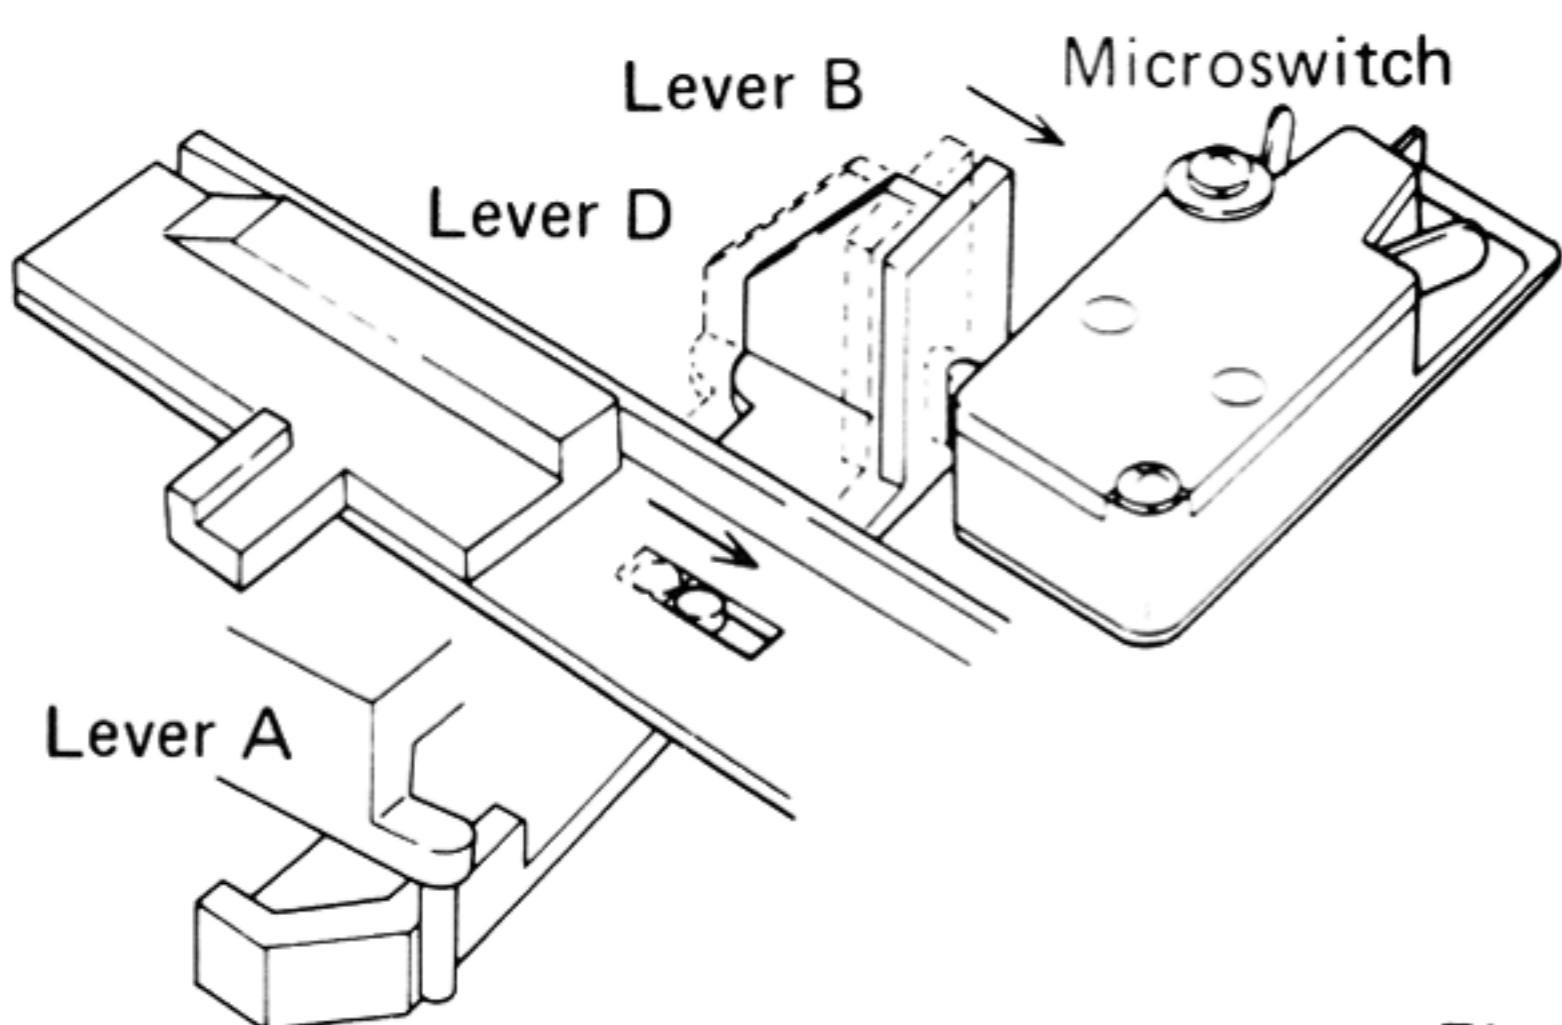

Fig. 7
5. When lever D has returned to its original position, lever B is pushed by lever A and the microswitch is turned OFF (Fig. 7).